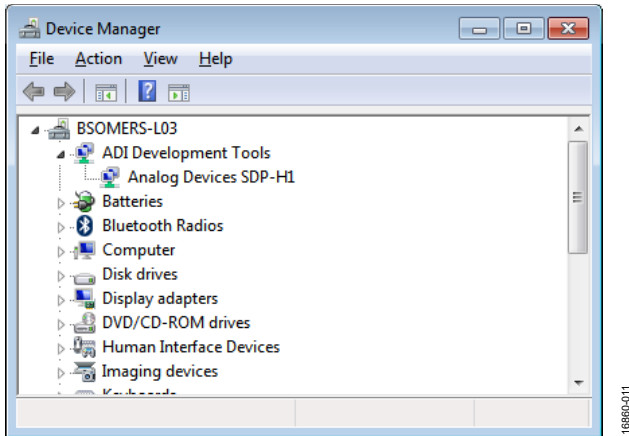

Figure 11. Device Manager Window
3. If the **EVAL-SDP-CH1Z** driver software is installed and the board is connected to the PC correctly, **Analog Devices SDP-H1** appears nested under **ADI Development Tools** in the **Device Manager** window, as shown in Figure 11.